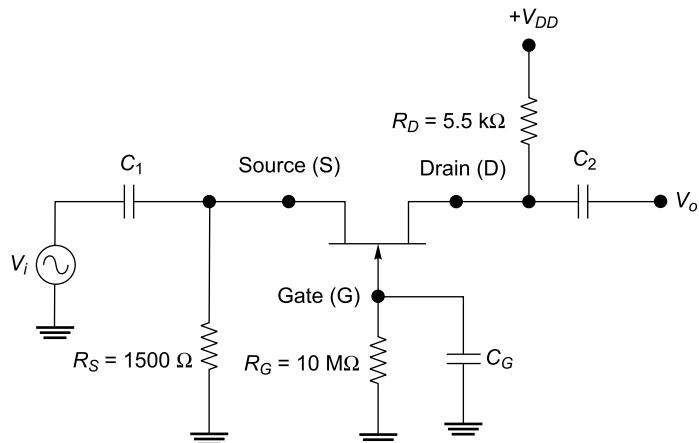

Fig. 1.93
51. Figure 1.93 shows a common gate JFET amplifier circuit. Determine the voltage gain input resistance and output resistance of the amplifier. Assume that $g_m = 5000 \mu\text{S}$ and $r_d = 55 \text{k}\Omega$.